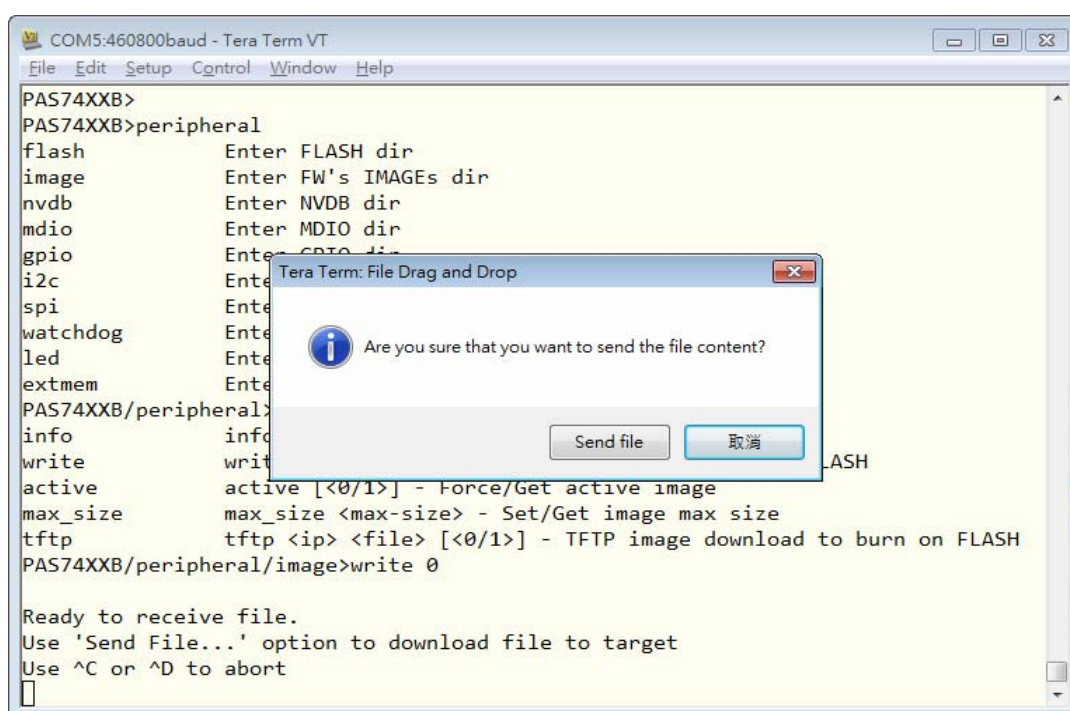

Figure.10 Send file to ONT
9. Please drag .uue file into the window, and you could see a window shown as figure 10.